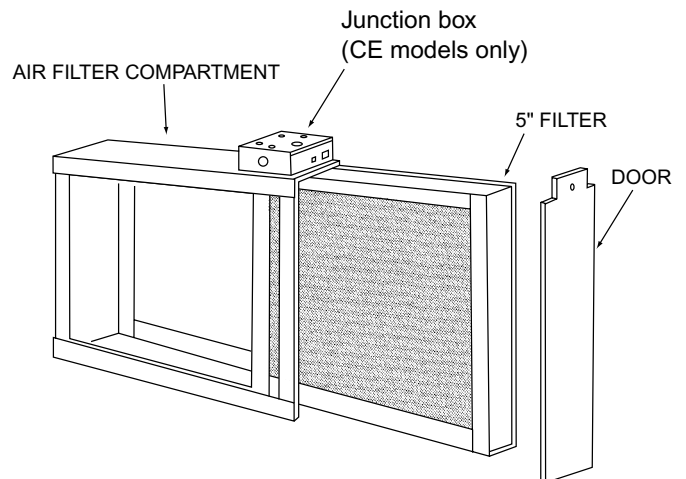

Figure 2
The BMAC box media air cleaner is easy to install and maintain. The basic components of the air cleaner are detailed below and are shown in figure 2.
1. Place the air cleaner cabinet on the floor. Stand it upright with the door facing you (Figure 2). If a horizontal installation is being planned, lay the cabinet on its side, this will help you to visualize the relative location of all parts.
7. With the air filter compartment installed, re-install 3" or 5" filter and door. (Figure 2)